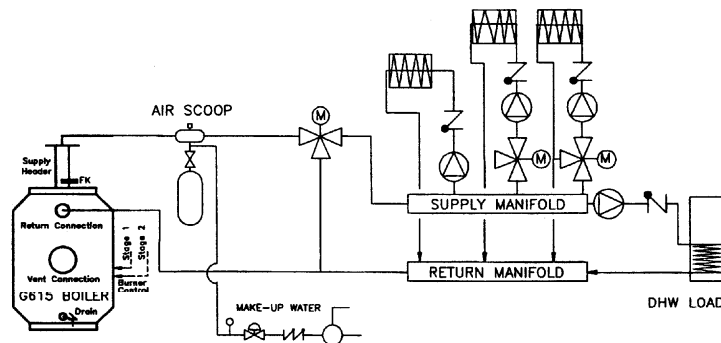

Figure 9: Module 148 operates 3 way mixing valve between boiler supply and return during burner operation based on temperature measured by the FK sensor.
- 1) Operate a 3-way mixing valve between boiler supply and return. See Fig. 9.